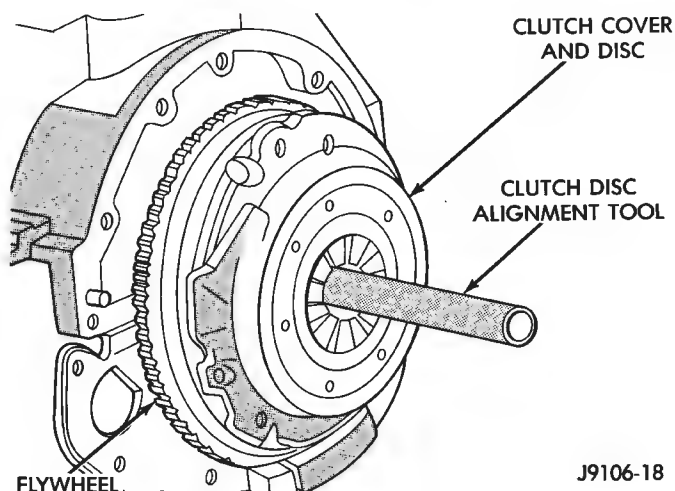

Fig. 3 Typical Method Of Aligning Clutch Disc
(6) Insert clutch alignment tool in clutch disc (Fig. 3).
(8) Position clutch cover over disc and on flywheel (Fig. 3).
(9) Install clutch cover bolts finger tight.